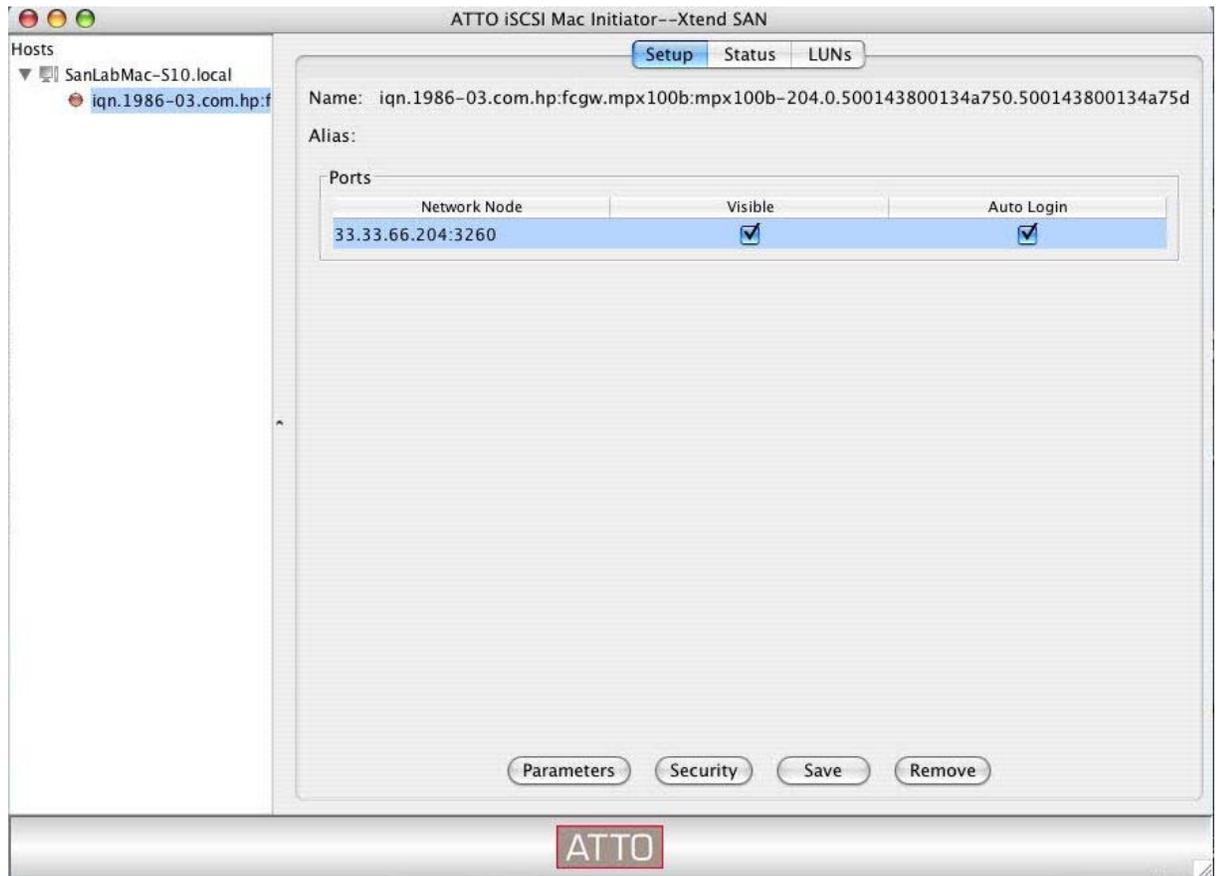

Figure 30 Selecting newly added target
- f. Check the **Visible** box (Figure 30). This allows the initiator to display the target status.